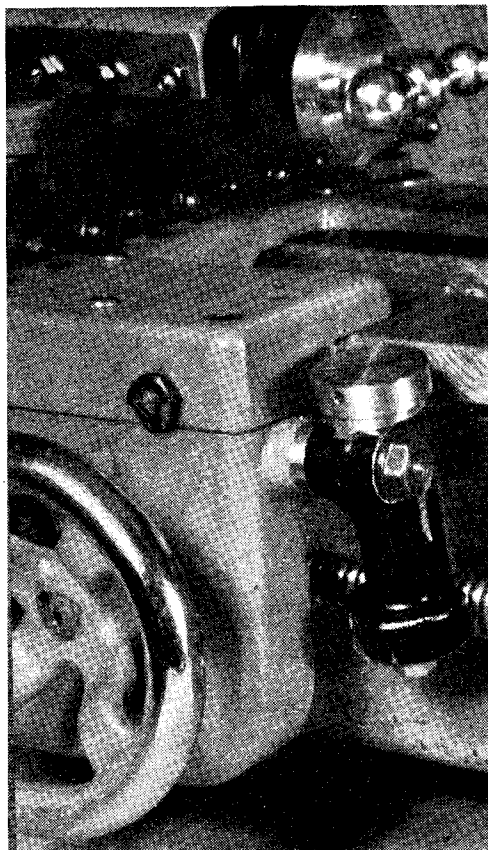
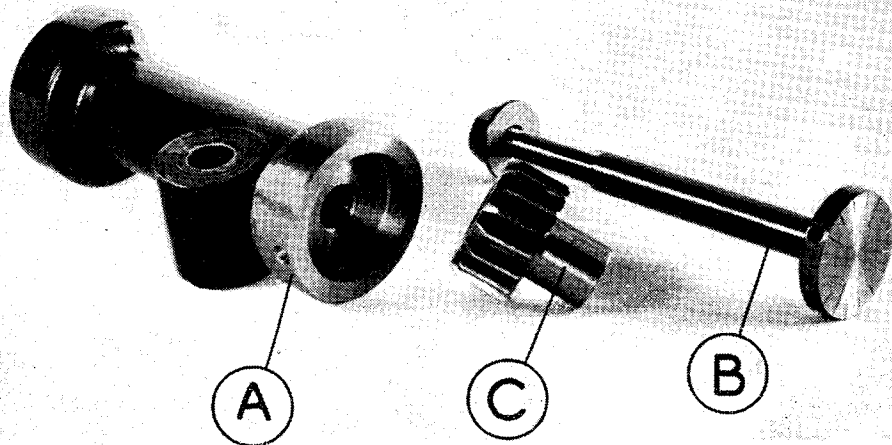

Fig. 1. Modified Myford thread indicator
Fig. 2. The component parts of the thread indicator
The reconstructed indicator is seen in position in Fig. 1, and its component parts are illustrated in Fig. 2.
The body is first machined by mounting it on a stub mandrel and boring out the upper end to a diameter of $\frac{3}{8}$ in. and to a depth of $\frac{17}{32}$ in. At the same time, the upper end is faced and the external surface of the head machined, as will be seen in Fig. 1. The work is then reversed on the mandrel and the lower end is also bored $\frac{3}{8}$ in., but to a depth of $\frac{7}{16}$ in.
The cavity to receive the head of the dial shaft (B) is then turned with a small, pointed boring tool, and by reference to the leadscrew index the work is finally faced to bring the recess to the exact depth required. As shown in the photograph, Fig. 2, the bore is countersunk or counterbored for a short distance to provide clearance for the neck of the dial spindle.
The index line, which is also apparent in Fig. 2, is cut on the diameter by mounting a 45 deg. V-tool on its side at centre height in the lathe toolpost, and then feeding it outwards almost as far as the edge of the capping.